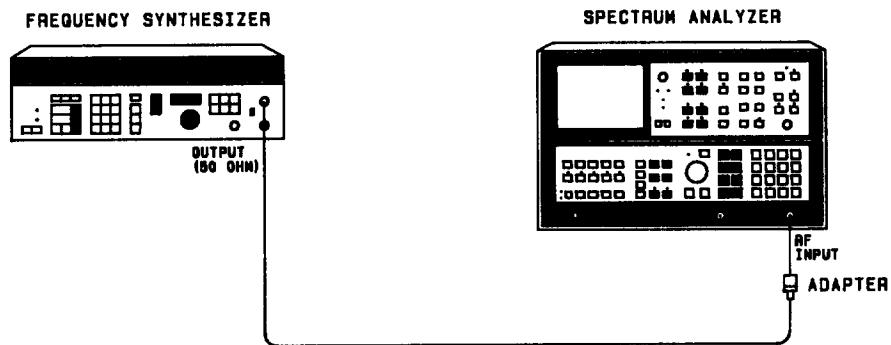

FIGURE 11. SCALE FIDELITY TEST SETUP
- Connect equipment as shown in Figure 11.